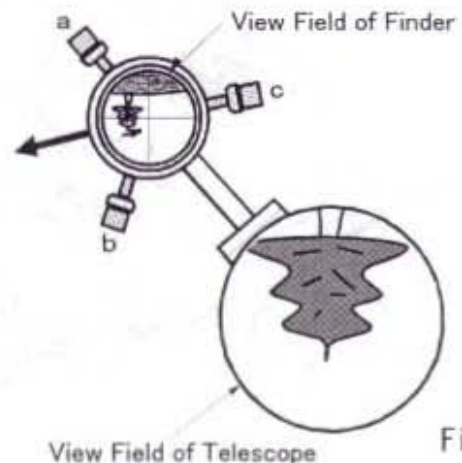

Fig. 12
2. In order to move the crosshair in the direction of the arrow, first loosen screw (a) and tighten (push) the finder with screw (c). This procedure will move the crosshair in the desired direction. The top of the finder will move in the opposite direction and the object will move in the direction of the smaller arrow. Refer to Fig. 12.